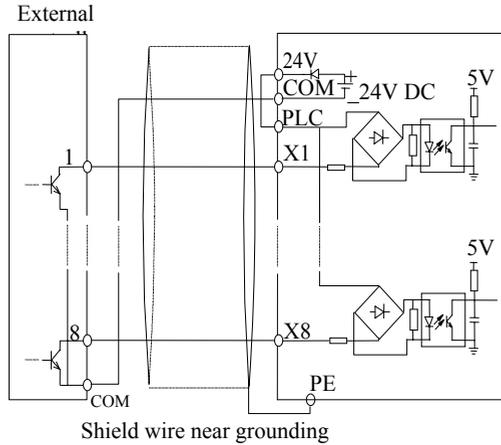

Fig 2-21 Method 2 of connections (a)
- 1) Ac drive's internal +24 V power supply is used and the external controller uses NPN transistors whose common emitters are connected, as shown in Figure 2-21.